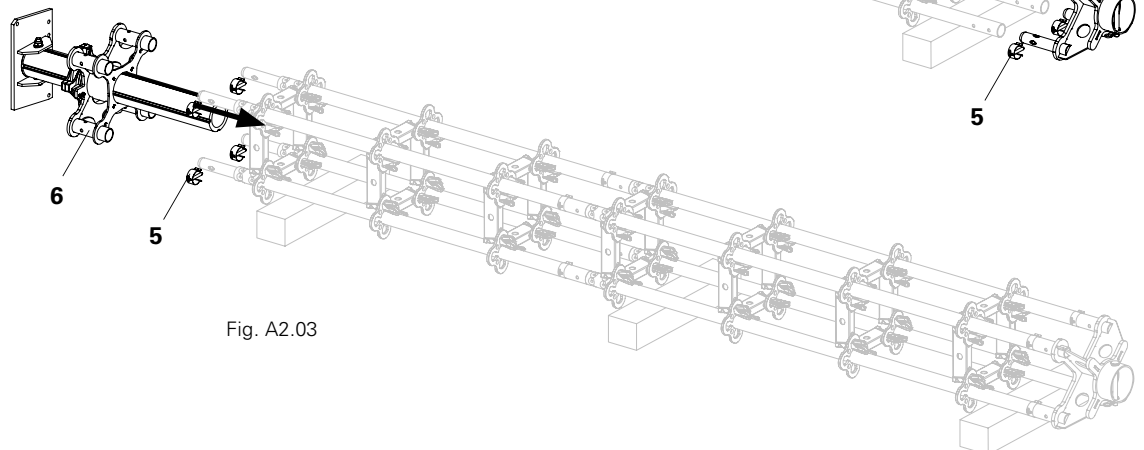

Fig. A2.03
4. Attach Head Spindle TR 110-80/55 (6) to the Spigots of the Standards and tightly connect with Locking Pins (5). (Fig. A2.03)